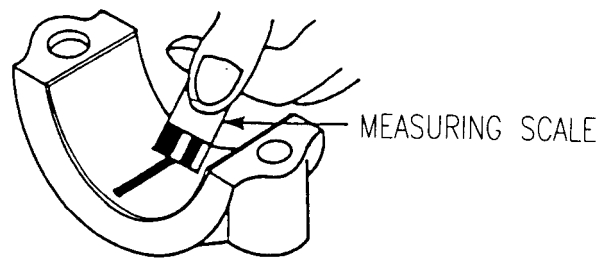

Figure 5-27. Measuring Crank Pin Clearance
- (5) Connecting rod bearing:
- 1 Position PLASTIGAGE PR1 (Item 10, Appendix E) on cap (parallel to crankshaft) (Figure 5-27).
- (6) Replace worn or damaged parts.